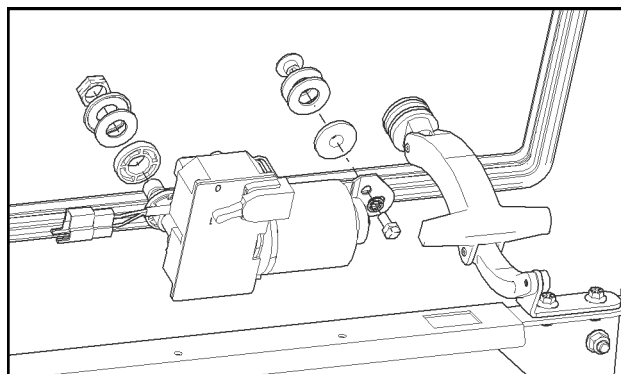

Fig. 19.1 (Windshield Wiper Motor)
19.1 Mount the wiper motor to the windshield. See Figure 19.1. Make sure the wires are above the wiper motor shaft to prevent pinching the wire when the windshield is opened and closed.